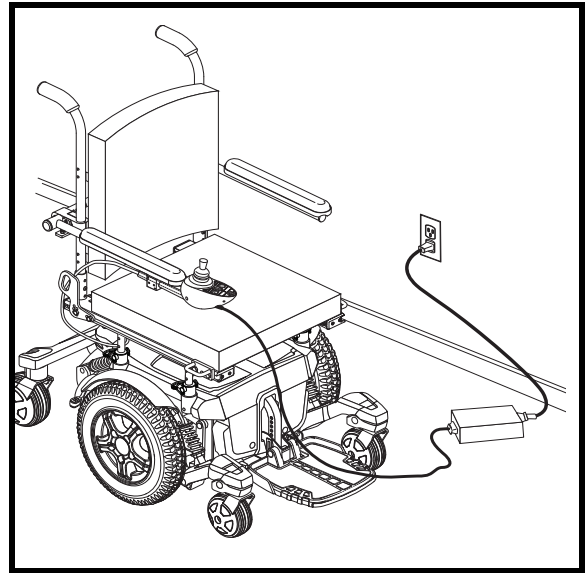

Figure 24. Battery Charging
3. Plug the off-board charger into the off-board charger/programming socket on the controller. See figure 24.